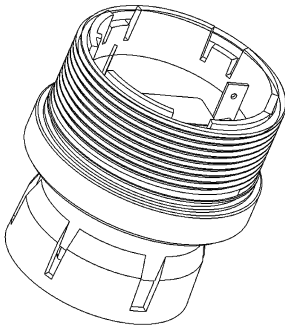

Fig. 14 Sensor and SensorGard
- (1) Unscrew the sensor unit from the bottom of the ULTIMA X® Series Gas Monitor [→ Fig. 14].
- (2) Identify and obtain the sensor unit needed.
- (3) Replace sensor unit.